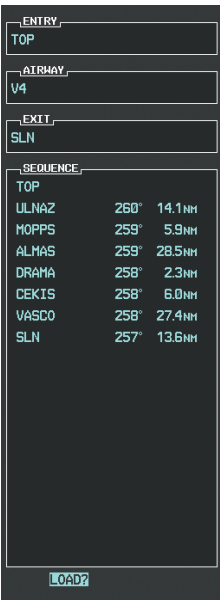

Figure 5-113 Ready to Load V4
- j) Press the **ENT** Key. The selected airway and exit are displayed, and the prompt “LOAD?” highlighted as in Figure 5-113.